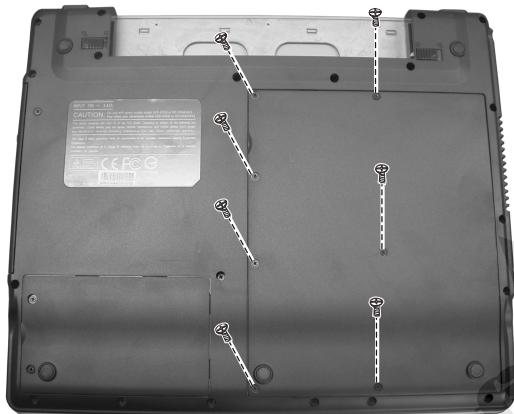

Figure 2-6 Remove the seven screws
2. Remove the seven screws fastening the CPU cover. (Figure 2-6)